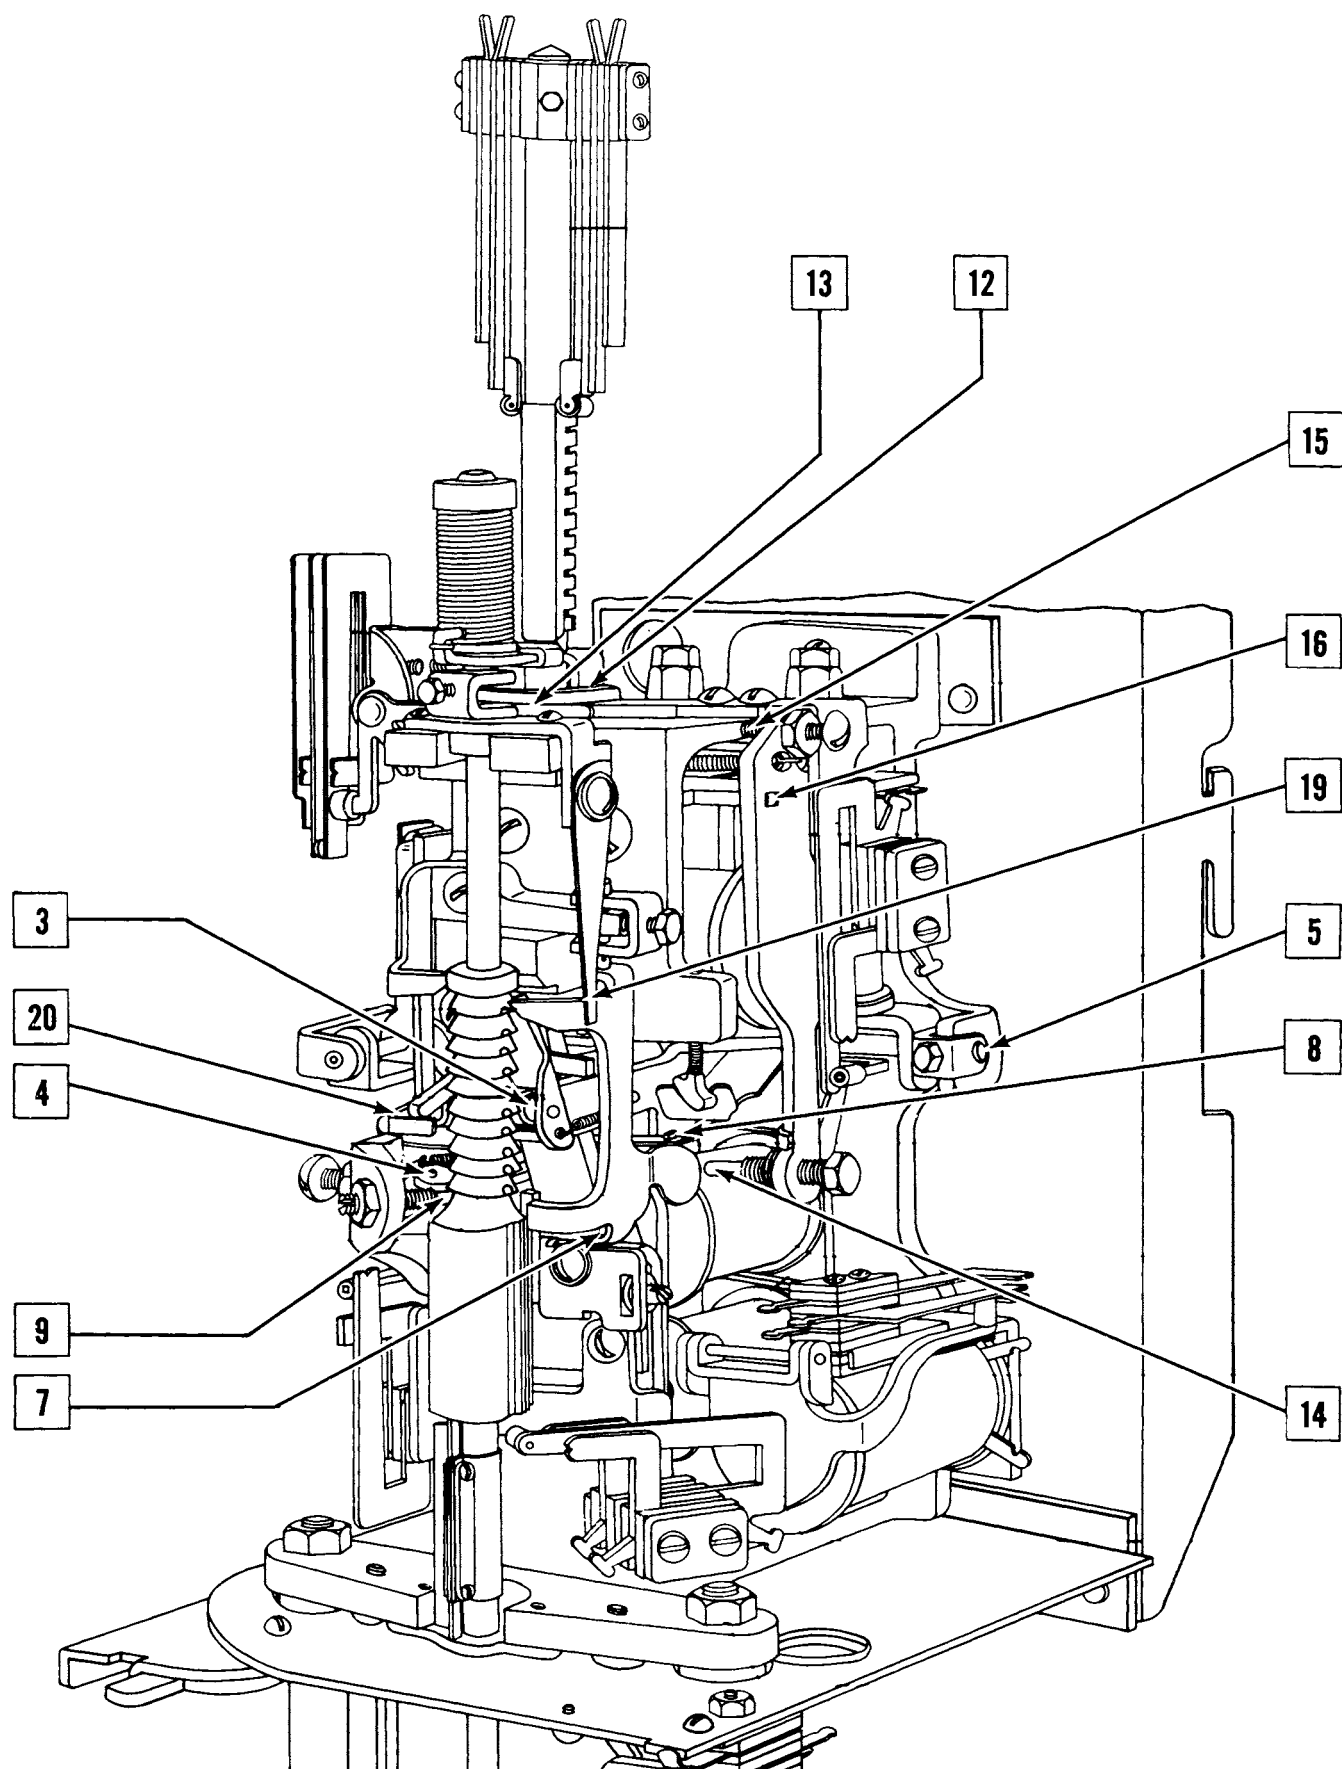

Figure 2. Strouger switch lubrication (right front view).
**4** The surface of the rotary pawl which is between the rotary pawl bearing lugs and the end of the armature (see figure 2).
**7** The double dog bearing pin at the angle formed by the pin and the upper surface of the lower bearing lug (see figure 2).
**8** The tip of the double dog release tooth (see figure 2).
- 9** The tip of the rotary pawl guide (see figure 2).
- 12** The surface of the shaft spring bracket which contacts the normal pin (see figure 2).
- 13** The surface of the off-normal finger which contacts the normal pin (see figure 2).
- 14** The tip of the release armature pin (see figure 2).
- 15** The release armature backstop screw (see figure 2).
- 16** The release armature pivot points (see figure 2).
- 19** The surface of the double dog which contacts the double dog spring (see figure 2).
- 20** The surface of the vertical pawl guide which contacts the vertical pawl finger (see figure 2).